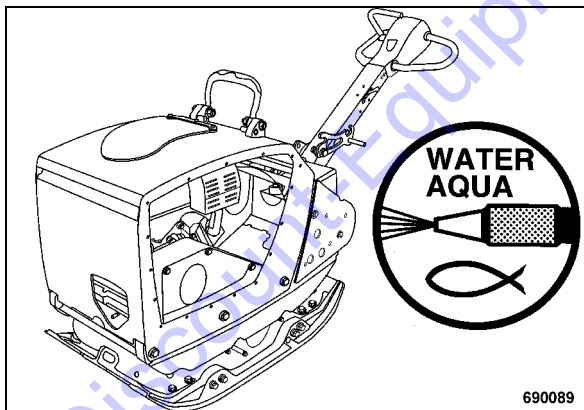

Fig. 34
- Use cold cleansing agent if the engine is soiled with oil and wash it off with a steam cleaner after a sufficient soaking time (Fig. 34).